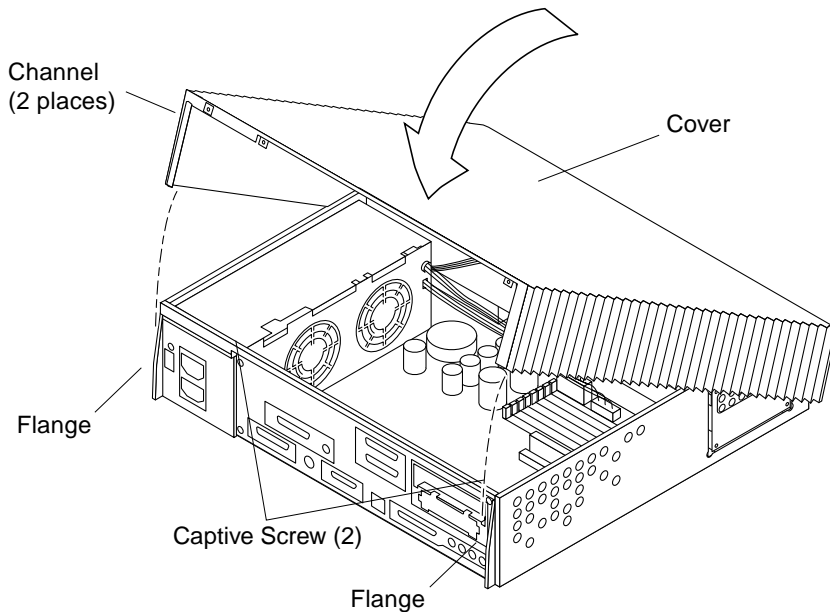

FIGURE 2-14 Replacing the Cover
2. Position the cover on the system chassis as shown (FIGURE 2-14).
3. Lower the back side of the cover until the channels on each side of the cover align with the two flanges at the rear of the system. Press down on both sides of the cover until it is firmly seated (FIGURE 2-14).